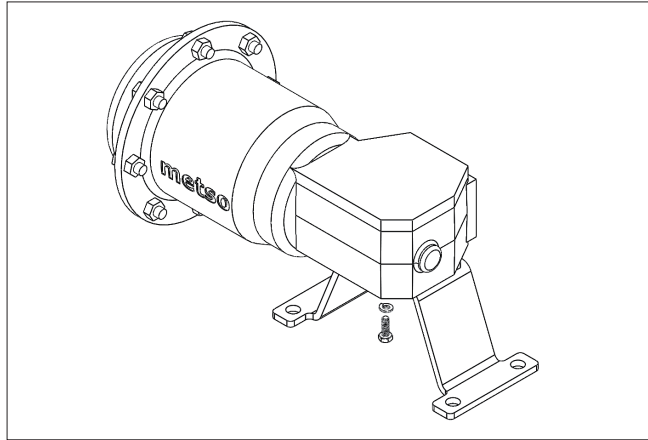

Figure 12.
11. Install new gasket (54), and secure cover plate to valve body using screws (55). To ensure even gasket loading tighten screws, in an alternating sequence to torque in (Table 3).
12. If the handle ratchet plate has been removed from the valve, reinstall it in the orientation shown in (Figure 12). Install lock washers and screws in the two bonnet holes. Do not tighten the screws until the stops are set. (See **SETTING HANDLE STOP** Section or **ACTUATOR MOUNTING INSTRUCTIONS** Section.)
13. Place the compression plate (10) over the shaft (4) and studs (14). Install the nuts (15), but do not tighten.
15. With the valve still closed, tighten the nuts (15) on the compression plate evenly until the shaft seals are adequately compressed to prevent leakage. This should require tightening the nuts approximately 1-1/2 to 2 full turns after they have both come into contact with the compression plate.
If it is necessary to remount the handle 180 degrees from its standard direction (See **Figure 12**).